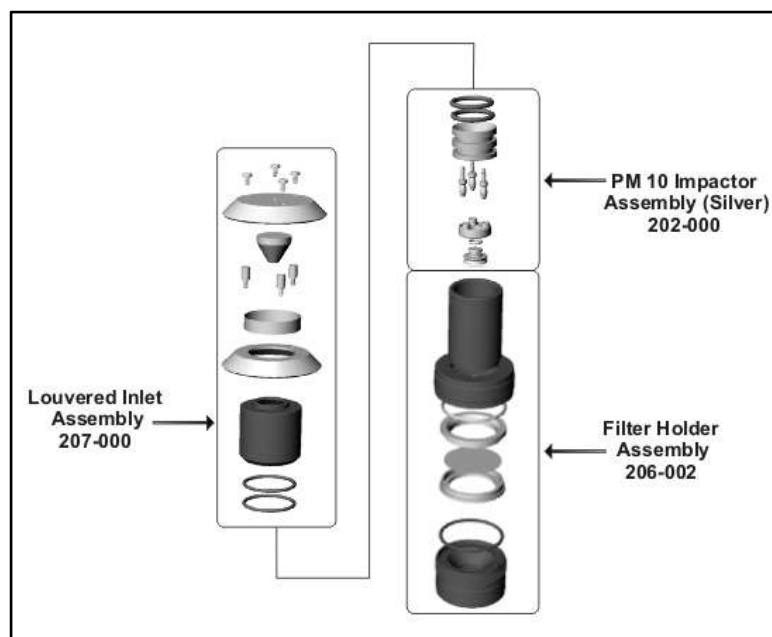
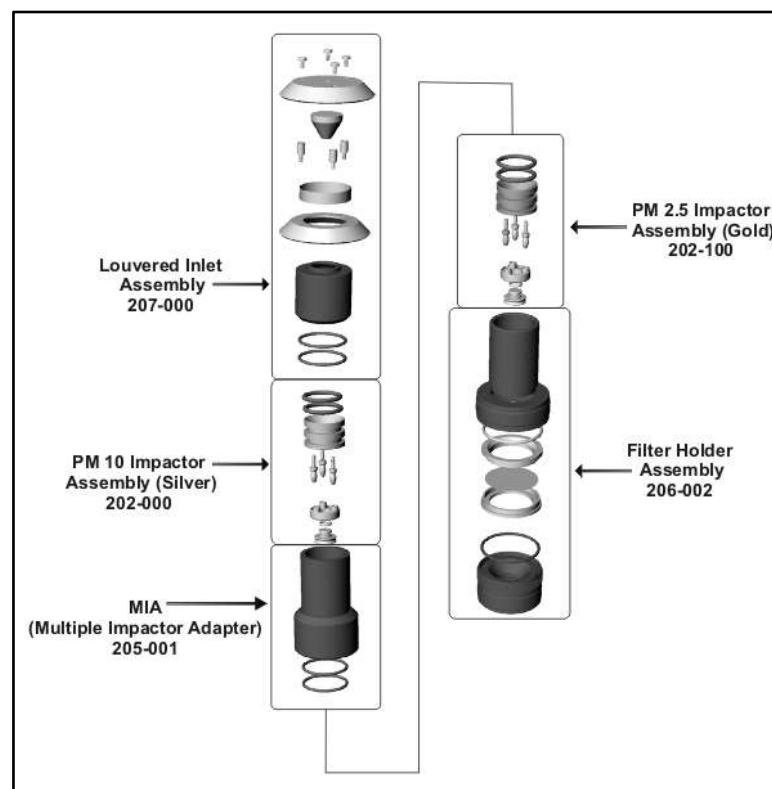

Figure 4.2 - PM10 Impactor/Filter Holder Assembly
Figure 4.3 - PM2.5 Impactor/Filter Holder Assembly
- **PM₁₀** - Use a PM₁₀ impactor in the filter holder assembly (see Figure 4.2). Greasing and cleaning of the impactor's target disk should be performed initially and after every fifth sample (or more often if heavy loading is observed). Refer to Section 7, Maintenance, "Impactor Cleaning."
- **PM_{2.5}** - Use a PM_{2.5} impactor in the filter holder assembly and a PM₁₀ impactor in a multiple impactor adapter mounted on the filter holder assembly tube (see Figure 4.3). Greasing and cleaning of the impactors' target disks should be performed initially and after every fifth sample (or more often if heavy loading is observed). Refer to Section 7, Maintenance, "Impactor Cleaning."
Depending on the required particle size separation, the configuration of the impactor/filter holder assembly changes. The filter holder assembly contains a filter cassette in which the 47mm filter is supported by a filter support screen (see Figure 4.2 for PM₁₀ and Figure 4.3 for PM_{2.5}).